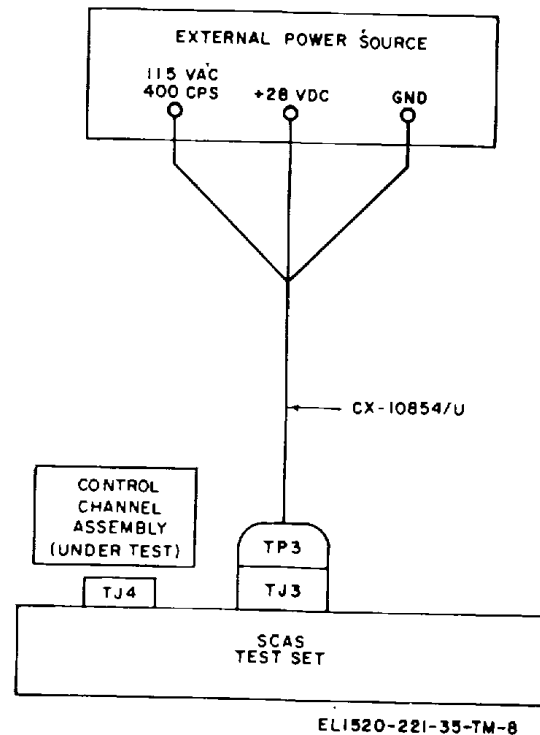

Figure 5-15. Control channel assembly test setup connections.
a. *Connecting Control Channel Assembly to SCAS Test Set (fig. 5-15).*
- (1) Position test set controls as follows:
- (2) Connect voltmeter positive lead to TP1 and negative lead to TP2 on the SCAS test set (not shown on fig. 5-15).
- (3) Connect multimeter between TP5 and GRD on the SCAS test set and set multimeter to 3-volt scale (not shown on fig. 5-15).
- (4) Connect the SCAS test set to the external power source using cable assembly CX-10854/U.
- (5) Insert control channel assembly 570074-037-7, -,15, or -11 into TJ4 of the test set.